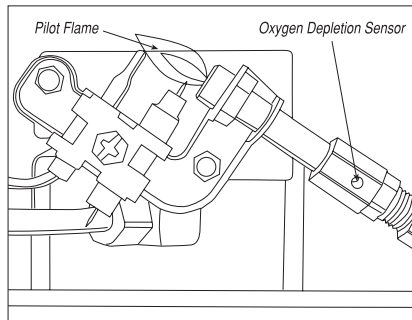

Figure 5
Visually inspect the pilot flame and burner periodically during use. The pilot flame should be blue in color (not yellow) and will extend beyond the thermocouple. The flame will surround the thermocouple just below the tip, see Figure 5.
- 8 Inspect and clean pilot (mounted to bracket) by using a vacuum or apply air pressure through the holes in the pilot indicated by the arrows in Figure 5.